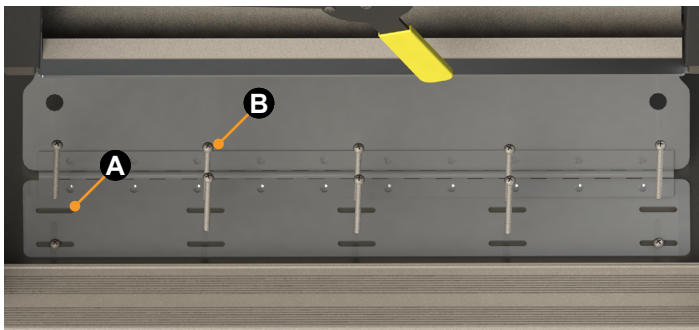

Fig.6
B. For laminate flooring, drill two holes straight down with the $\frac{13}{64}$ " drill bit via the access holes located in the top of the mounting plate. Insert two #10-4" bolts into the mounting plate through the floor through the backer plate (Fig.2B) and secure with the plain washers, lock washers and then the nuts provided. Refer to Figure 6 and Figure 7 for backer plate info.